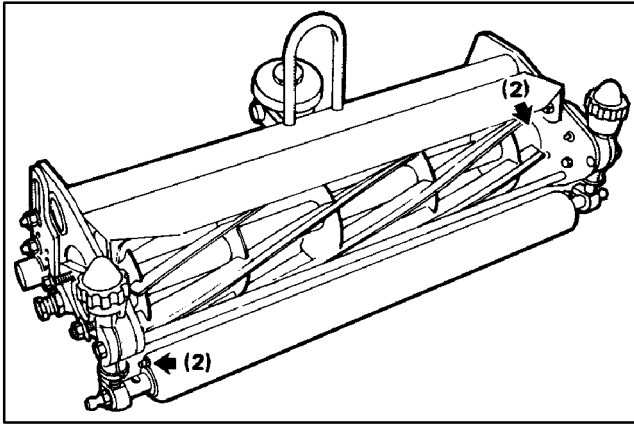

Figure 10
There are seven (7) grease fittings on each cutting unit (Fig. 10 & 11), which should be greased at least once every two weeks. Lubricate using a No. 2 multipurpose lithium base grease. A hand operated grease gun is recommended for best results.